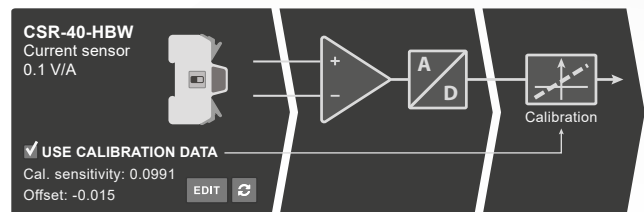

Fig. 13. Relevant section of the "analog I/O" configuration in Cockpit.
- Click on the "edit" button, as shown in Fig. 13.